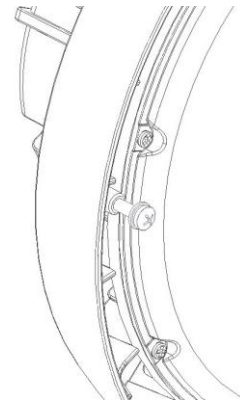

FIG.2
- 2) Start the provided pan head screws and washer into the existing mounting holes. (FIG.2)